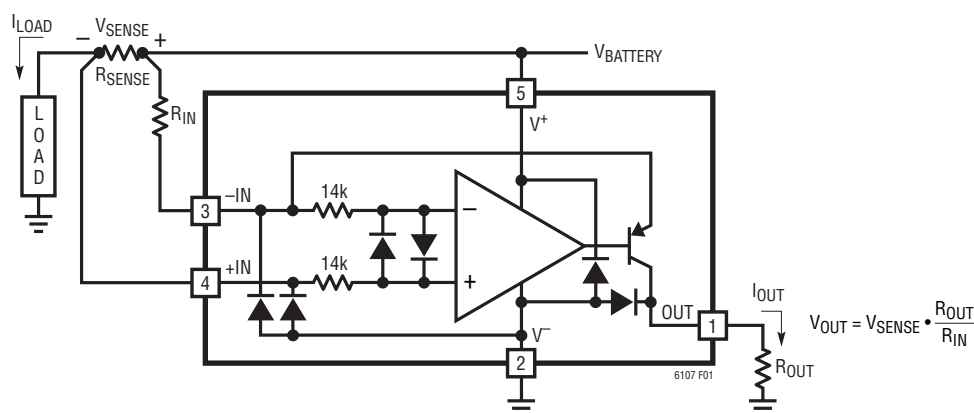

Figure 1. LT6107 Block Diagram and Typical Connection
**Note 6:**  $V_{\text{SENSE}^+}$  is the voltage at the high side of the sense resistor,  $R_{\text{SENSE}}$ . See Figure 1.
The LT6107 high side current sense amplifier (Figure 1) provides accurate monitoring of current through a user-selected sense resistor. The sense voltage is amplified by a user-selected gain and level shifted from the positive power supply to a ground-referred output. The output signal is analog and may be used as is, or processed with an output filter.